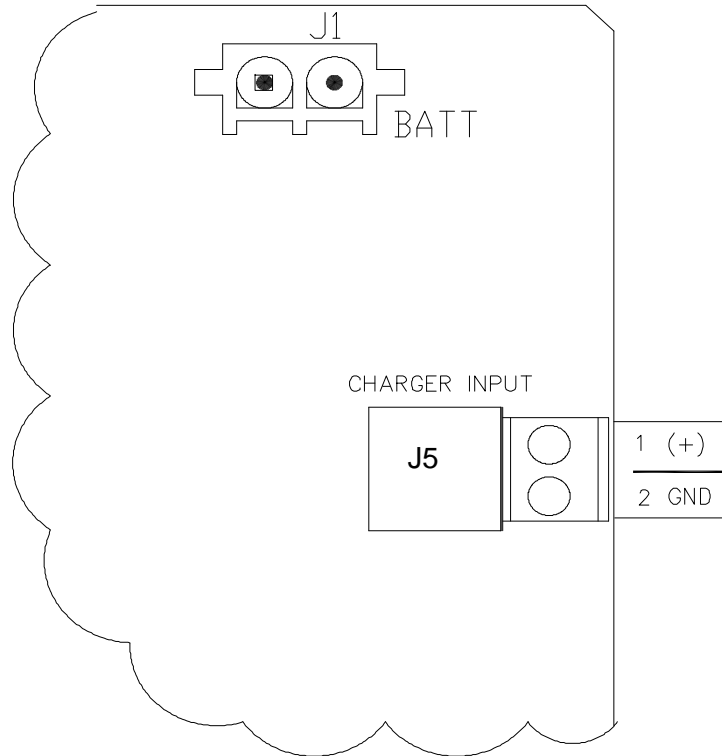

Figure 96: Battery Charger and Battery Pack Connections
2. Check battery pack cable. It must make a good secure electrical connection with the main electronic board BATT CONN connector J1 (Figure 96:).
1. Check the battery pack cable. It must make a good secure electrical connection with the main electronic panel BATT CONN connector J1 (Figure 96:).